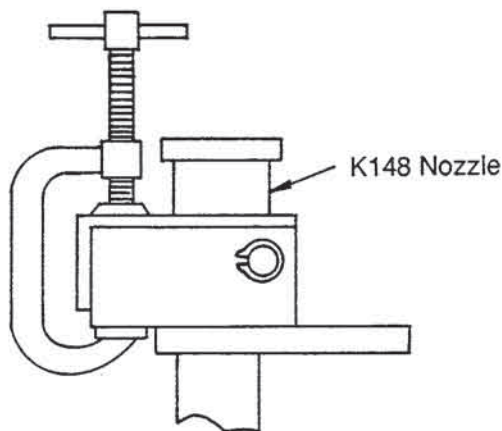

Figure 1
1. Remove spring pressure on center guide tube by applying a "C" clamp as shown in Figure 1. Apply only enough clamping force to relieve the tang pressure from the I.D. of the tip.